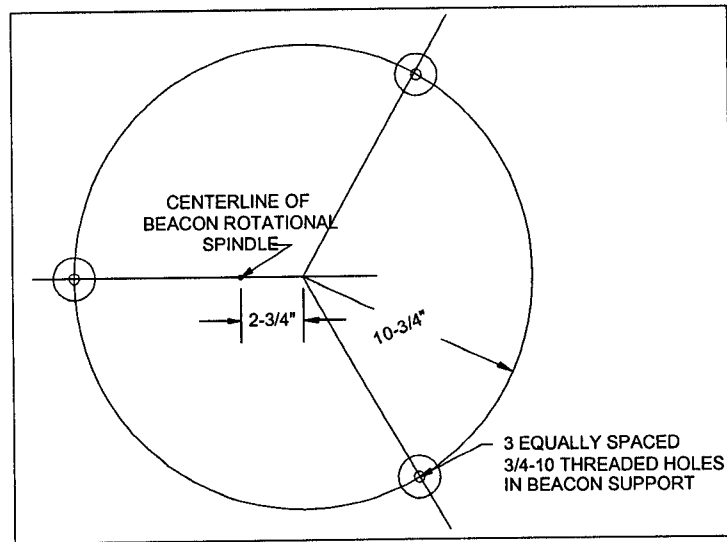

Figure 3-5
- a. The net weight of the beacons unpacked are 330 and 470 pounds for the DCB24 and DCB224, respectively. Therefore, weight handling equipment will be needed at the Aid to facilitate installation. Disassembly of the drum(s) from the base may be necessary to maneuver the beacon into position. The lantern must be installed on a stable platform to ensure that accurate aim is maintained. The beacon is top-heavy and may tip over until it is permanently installed. Use extreme caution when maneuvering the beacon into place. The lantern is secured to the platform using 3/4" capscrews as shown in Figure 3-5. Use the hardware (bolts, flat washers and lock washers) that secured the beacon to the shipping crate.